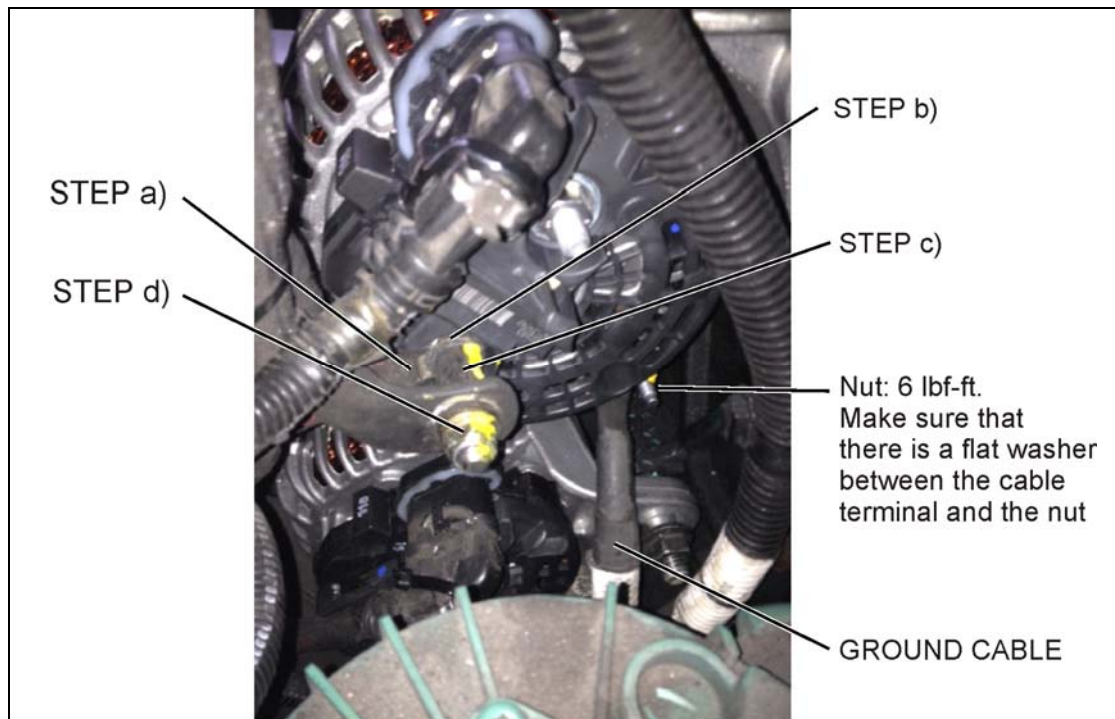

FIGURE 24
- Install jumper cable (a.k.a. positive cable) onto **B1+** stud terminal on upper alternator (**FIGURE 24**).
- Place one new flat washer #5001341 against the cable ring terminal (**FIGURE 24**).
- Screw and tighten the adapter stud #564590 (torque: 10 lbf-ft) (**FIGURE 24**) prior installing power cable.
- Fit the power cable terminal onto adaptor stud, place one new flat washer #5001341 against the power cable terminal and screw a new nut #5001787 (nut torque: 10 lbf-ft) (**FIGURE 24**).
- Fit the ground cable onto the alternator ground stud, place one new flat washer #502573 against the ground cable terminal and screw a new nut #5001182 (nut torque: 6 lbf-ft) (**FIGURE 24**).